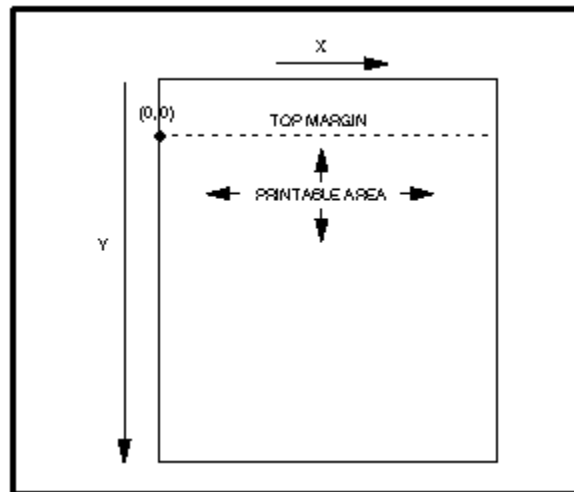

Figure 8-1 Physical Coordinate System
Character design dimensions within the cell are in physical coordinate system dots (rather than PCL Coordinate System dots). The physical coordinate system is defined in terms of the directions of raster scan (X) and paper motion (Y) as illustrated in Figure 8-1.